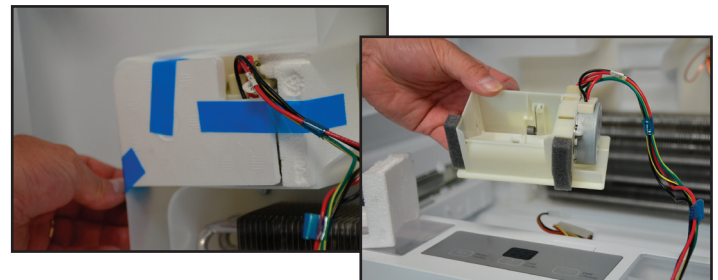

FIGURE 28
5. Remove tape to access deli air damper. See *Figure 28*.